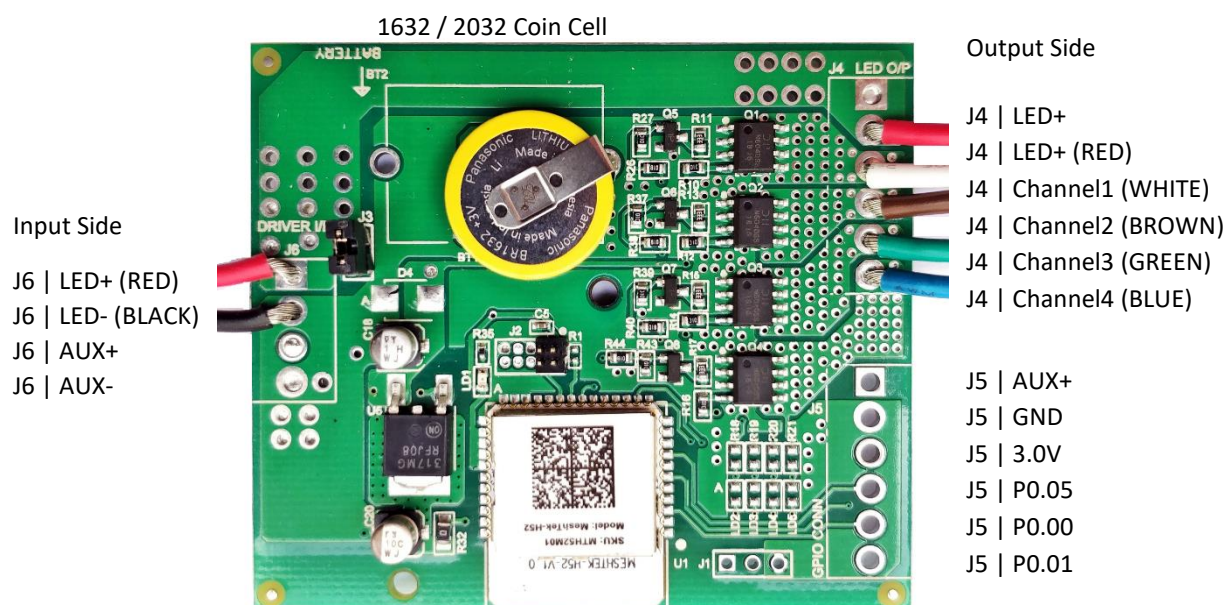

Figure 2-1 MeshTek® 4 Channel PWM SLC (65mm X 56mm)
- Representation of end user interface and connectors present on MeshTek® 4 Channel PWM SLC is shown in Figure 2-1